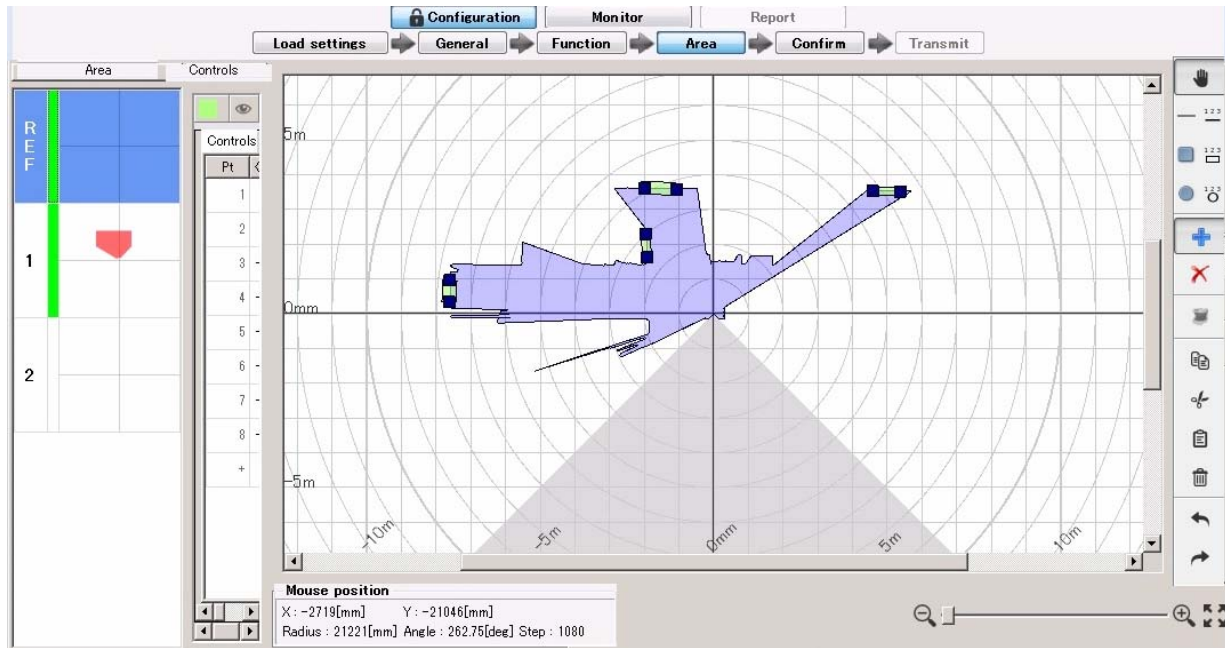

Figure 7-47 Reference region configuration example
- Main screen displays the configuration for reference region (Figure 7-47). First area on the preview indicated by “REF” represents the reference area.
For example, to monitor the sensor's displacement by referring the background, choose the line drawing tool and draw a line segment over the background by mouse drag and drop. Reference region with the $\pm$ tolerance is generated on that location (Figure 7-47).